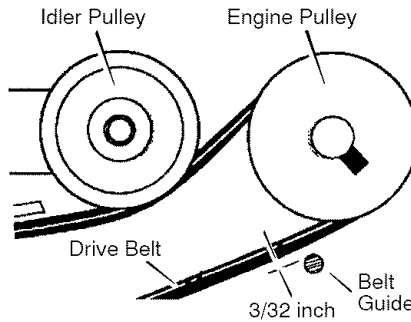

Figure 24
8. Set the belt guide to $\frac{3}{32}$ " clearance as shown in Figure 24.